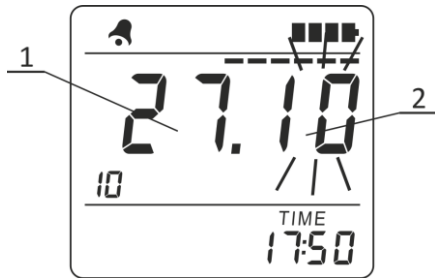

Figure 2.18 – LCD of the radiometer
A short press of MODE button saves a new value of the year in the radiometer memory. The new value of year blinks three times on the LCD of the radiometer to show that it has been saved. The date (1) and month (2) are then displayed on the LCD (Figure 2.18). When the month digits are blinking, it means that their values can be programmed. They are programmed with the help of THRESHOLD button in a similar way to the minute digits programming.